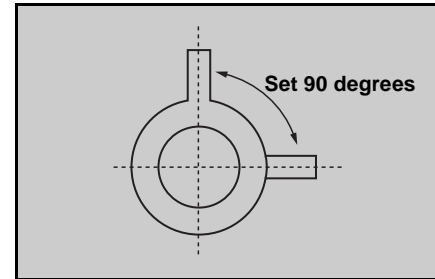

Figure 27. **4-pole magnet**
4. Position the longer tab of the four-pole magnet to 90 degrees (uncorrected position). (See Figure 27).